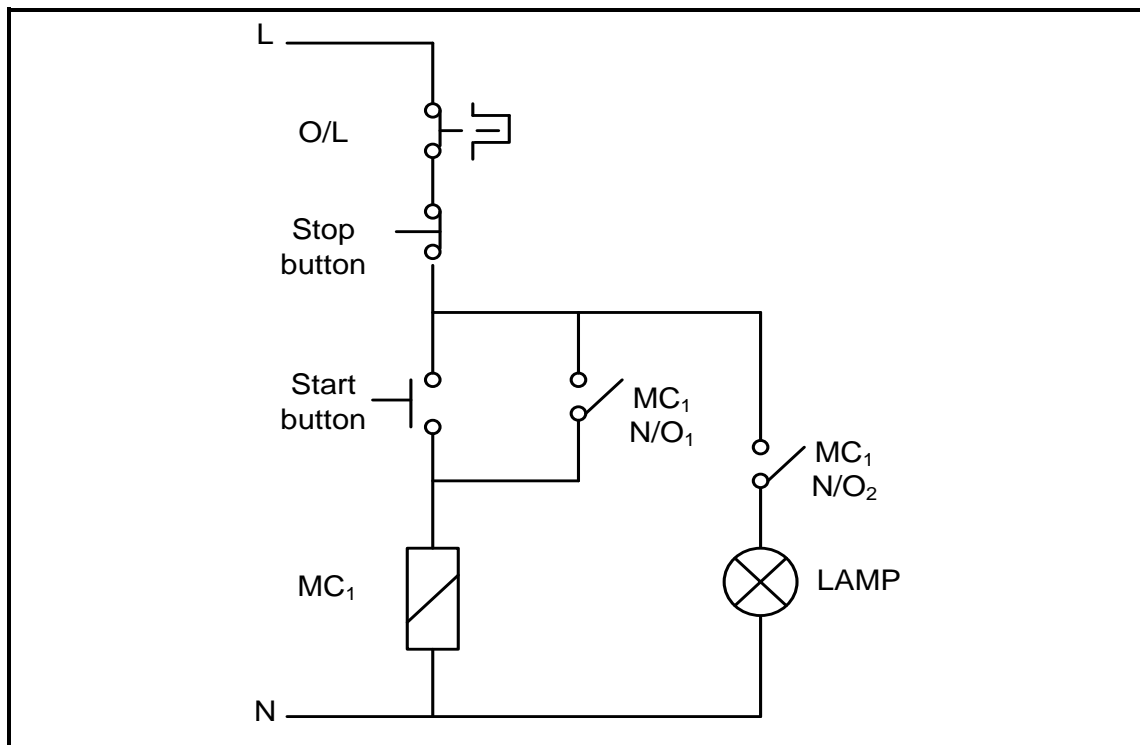

FIGURE 6.7: CONTROL CIRCUIT
- 6.7 Draw a ladder logic diagram that will execute the same function as the control circuit in FIGURE 6.7 below.